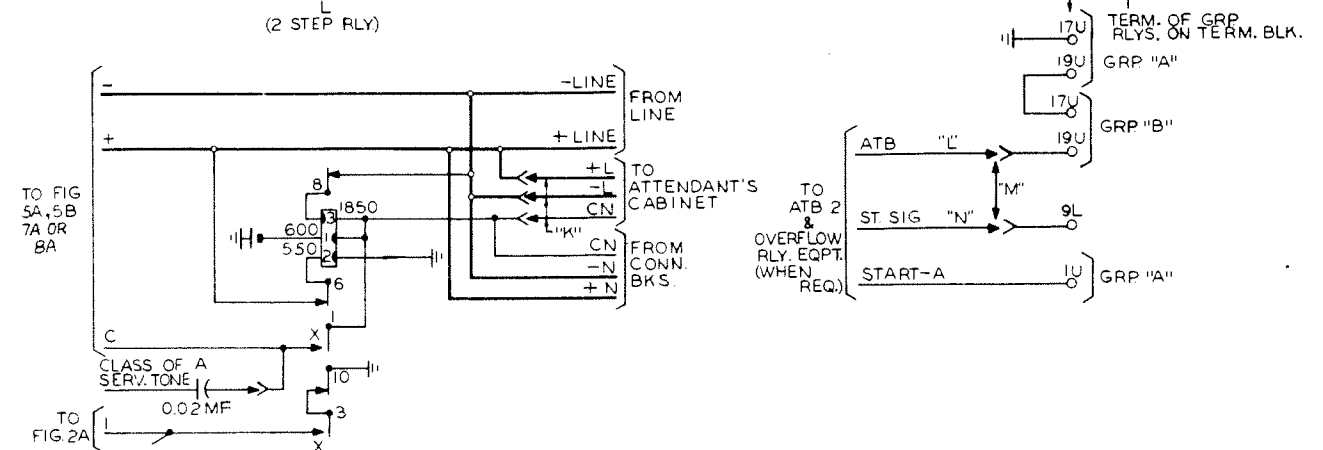

FIG. 6A
- 9-(FIGURE 6A) USE "L" WIRING AND OMIT "M" WIRING WHEN ATB RELAY EQUIPMENT IS PROVIDED. USE "N" WIRING IF IT IS DESIRED TO HAVE START SIGNAL OPERATE FROM ATB RELAY EQUIPMENT. USE "M" WIRING IF ATB RELAY EQUIPMENT IS NOT PROVIDED AND IT IS DESIRED TO HAVE START SIGNAL OPERATE FROM ATB CHAIN; OTHERWISE OMIT "M" WIRING.